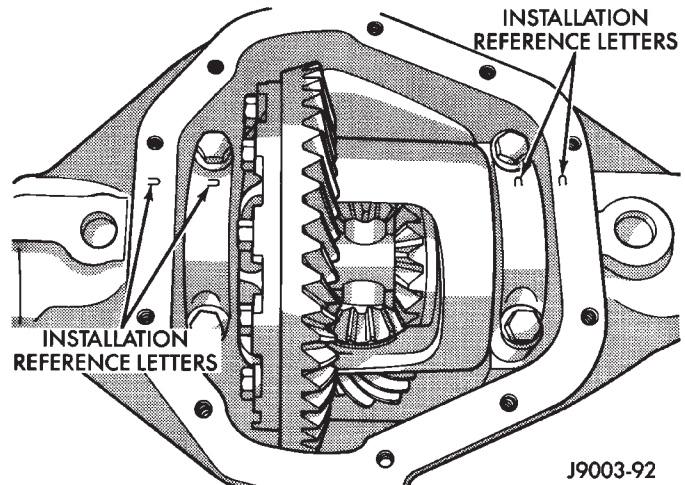

Fig. 23 Bearing Cap Identification
- (1) Raise and support vehicle.
- (2) Remove the lubricant fill hole plug from the differential housing cover.
- (3) Remove the differential housing cover and allow fluid to drain.
- (4) Remove hub bearings and axle shafts.
- (5) Note the installation reference letters stamped on the bearing caps and housing machined sealing surface (Fig. 23).